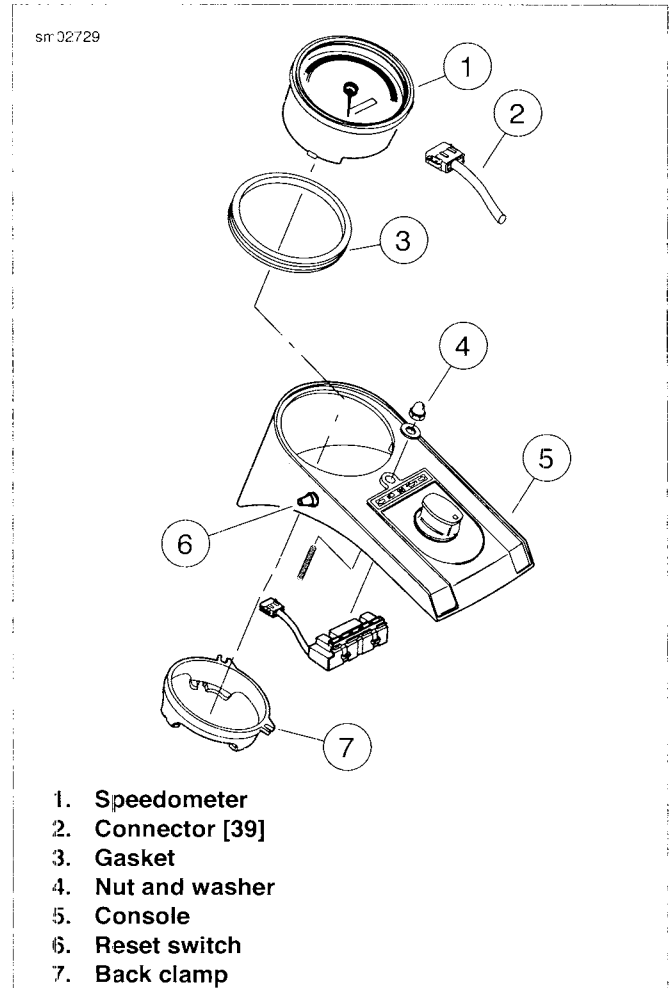
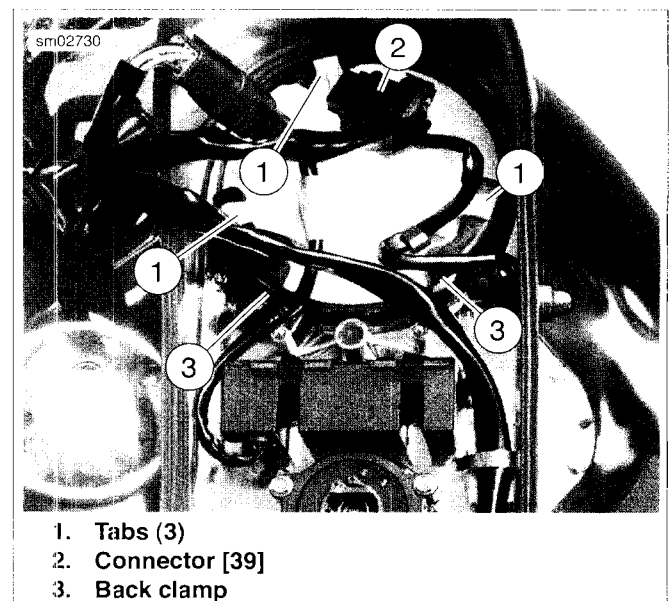

Figure 7-69. Speedometer: All But FXCWC (Typical)
Figure 7-70. Connector [39] (Typical)
1. See Figure 7-69. Remove nut and washer (4) and lift console (5) from fuel tank.
3. Depress connector tab and disconnect 12-place harness connector [39] (2) from speedometer under console.
4. Unscrew the rubber boot from the odometer reset switch (6) on the left side of the console.
6. See Figure 7-70. Pry between three tabs and speedometer with a screwdriver to raise and release back clamp from speedometer. Remove back clamp from speedometer.
7. See Figure 7-69. Remove speedometer from console.
8. Remove gasket (3) from speedometer.
1. See Figure 7-69. Install gasket (3) to speedometer.
2. Position speedometer in console (5).
3. See Figure 7-70. Press on back clamp (3) until three tabs engage on back of speedometer.
4. See Figure 7-69. Insert odometer reset switch (6) through hole in console and install rubber boot.
5. Connect 12-place connector [39] (2) to speedometer under console.
6. Remove shop rags. Attach console to fuel tank with nut and washer (4). Tighten to 7-11 ft-lbs (9.5-14.9 Nm).